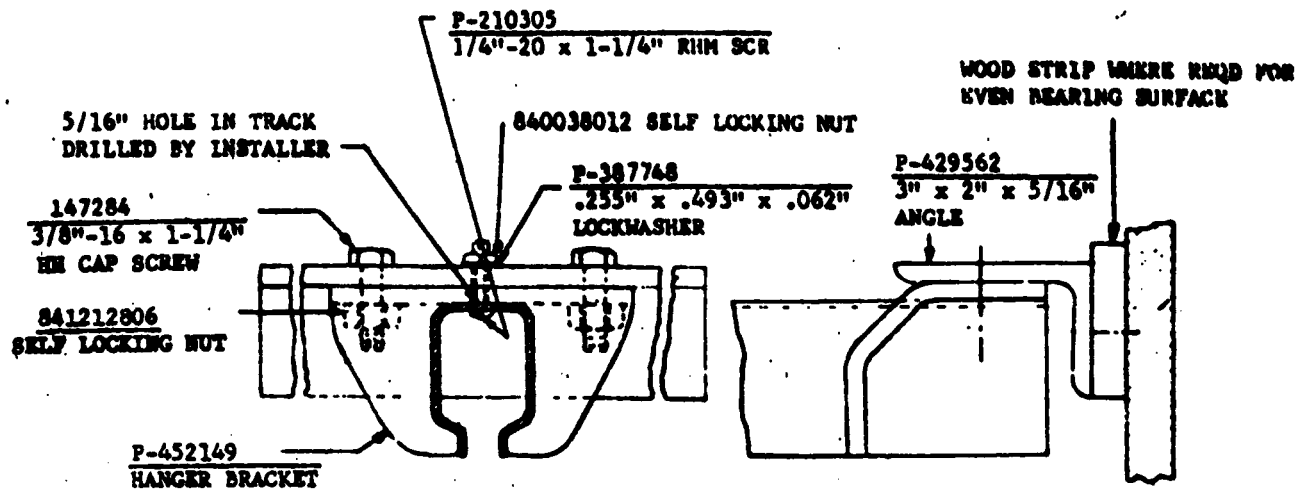

FIG. 28 LADDER TRACK SUPPORTED FROM WALL
5.61 Where ceiling inserts are not available adjacent to the walls, ladder tracks may be supported from the wall in accordance with Figure 28.
(BSP 800-614-159 FIG. 28)